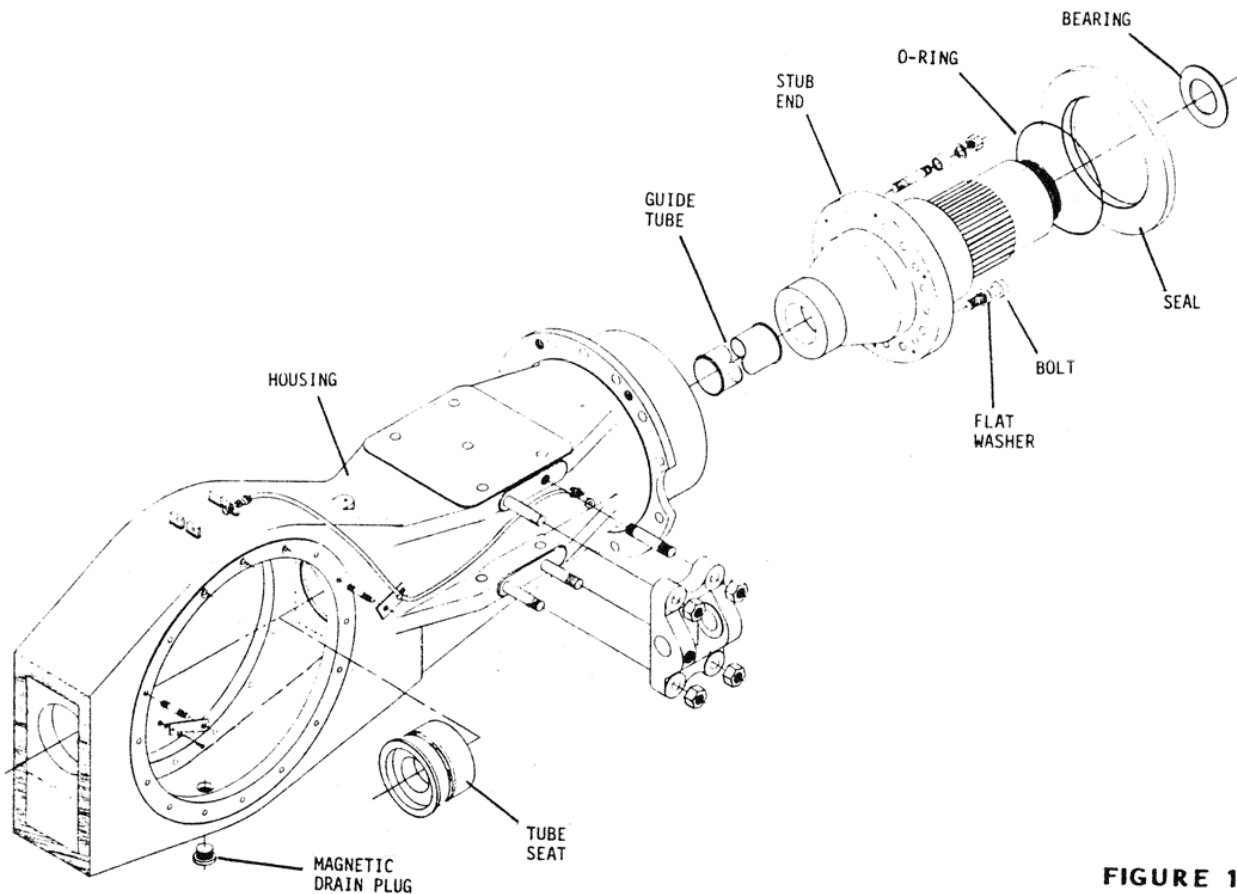

FIGURE 10
A. Drive Axle Housing Preparation - Figure 10.